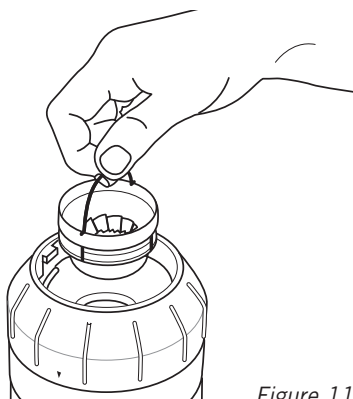

Figure 11
4. Lift out the top burr from the grind adjustment collar using the handle, see figure 11. Clean using the burr-cleaning brush.